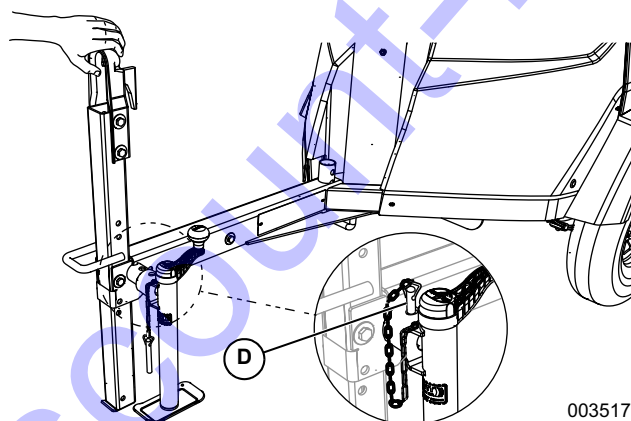

Figure 2-3. Jack Installed
4. See Figure 2-3. Install jack and secure with clevis (D).